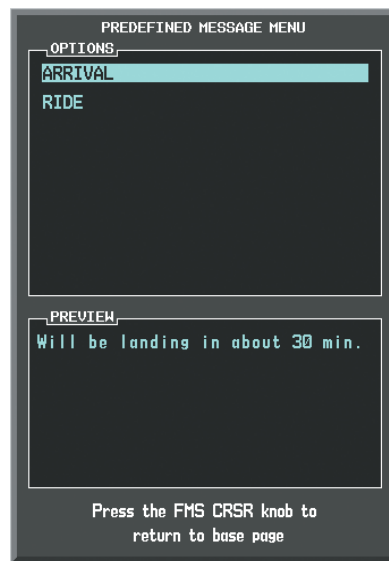

Figure 8-96 Predefined Message List
- 4) Press the **PREDEFD** Softkey. The PREDEFINED MESSAGE MENU Window is displayed as seen in Figure 8-96.